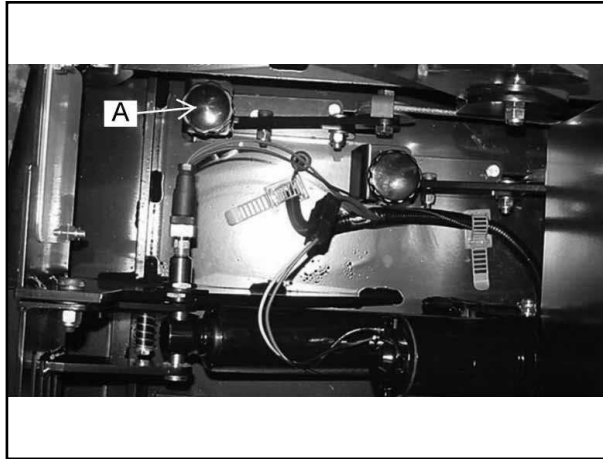

FIGURE 26
The side broom adjustment knob (A) for changing the sweep height to compensate for broom wear, is located in front of the machine to the right of the dust control filter as shown in figure 26. Turning the knob to the left (counterclockwise) will lower the side broom.